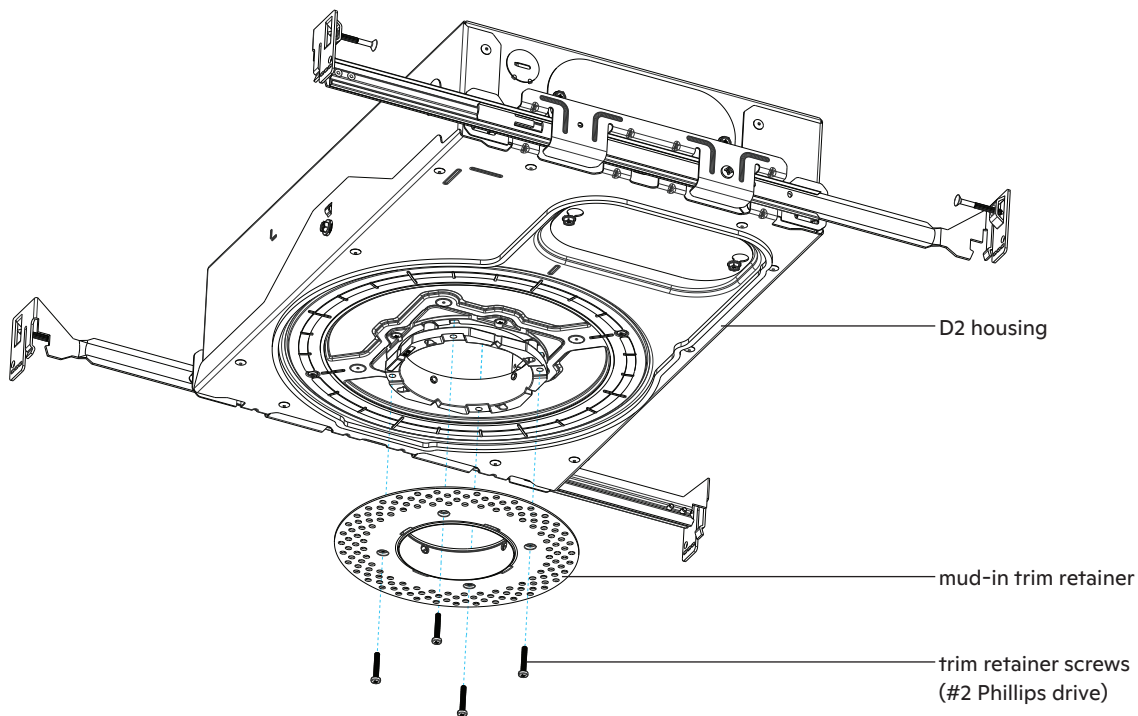

fig. 14
1. Align the retainer assembly such that the holes in the retainer line up with the screw posts in the collar (see fig. 14).